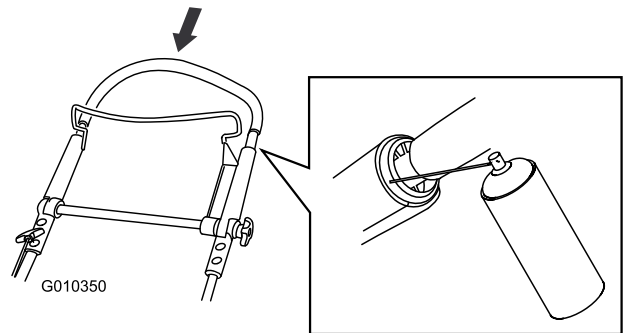

Figure 48
2. Push the upper handle fully down and spray the inner plastic surface of the outer handle (Figure 48).